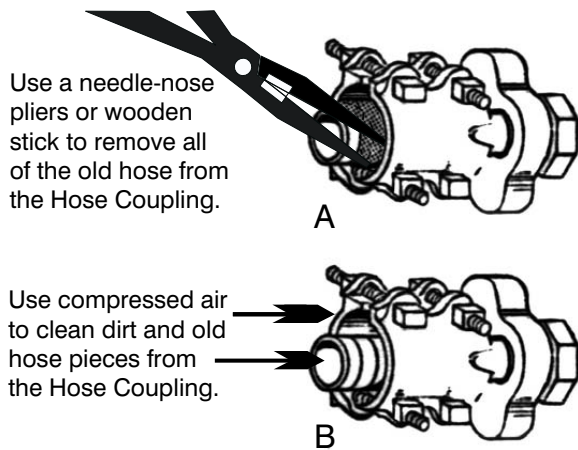

Figure 9-28. Clean coupling plug and clamp.
- c. Use a needle-nose pliers or wooden stick to remove hose pieces that are stuck to the coupling plug. Refer to Figure 9-28.